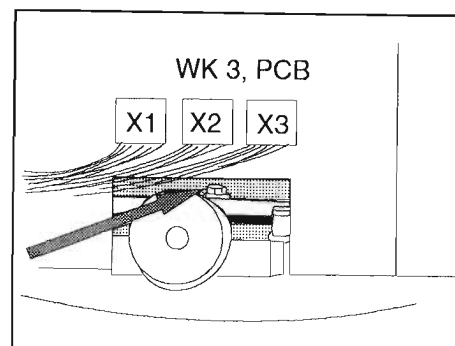

Fig 4, Use open ended spanner no. 7
- see Fig. 4 for centring of the image use the two nuts (both nuts are reachable via WK3, rotate the camera + and - 90°)